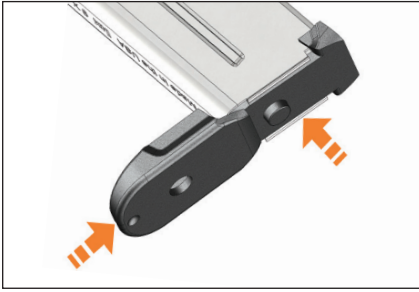

Figure 37 – Slide the floorplate onto the magazine housing
5. Slide the floorplate over the tabs on the magazine until the locking plate seats in the floorplate (See Figure 37).